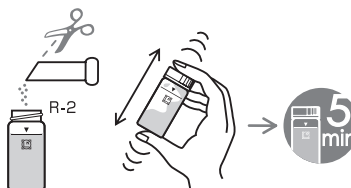

Fig.3
3. Add R-2 Reagent of LR-NO₂ into the cell, cap the cell tightly and shake the cell 5 - 6 times. Then wait for 5 min. (Fig.3)